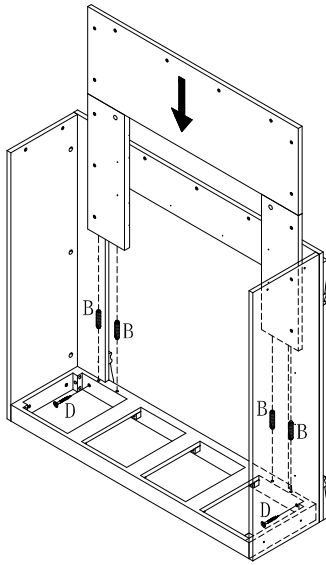

Figure 4
ATFER FINISHED FIGURE 4, INSERT (D)WOOD SCREW TO THE RELATED HOLES OF (8) UPPER FRONT PANEL , (9) LEFT BACK PANEL & (10) RIGHT BACK PANEL. FINALLY USE SCREWDRIVER TO LOCK TIGHTLY